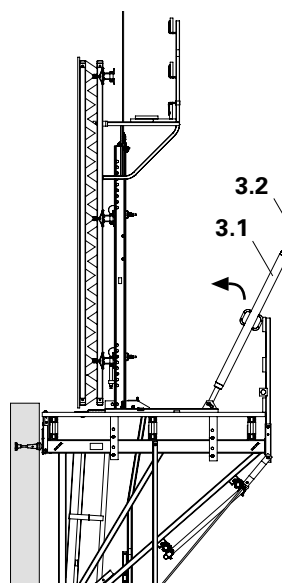
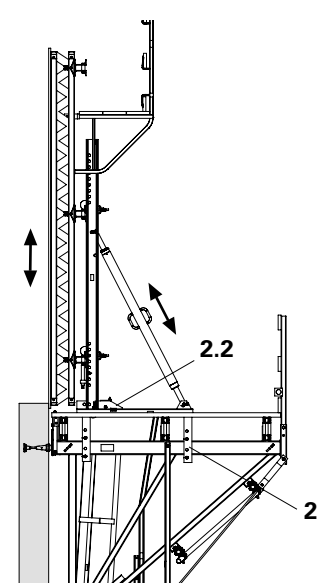

Fig. B2.08
Fig. B2.09
6. Fix Adjustable Brace (3.1) to Strongback with bolts  $\varnothing 25 \times 180$  and cotter pins (3.2). (Fig. B2.08)
9. Move Carriage (2) with formwork forward to the wall and secure Carriage with wedge (2.2).
10. Align formwork. (Fig. B2.09)